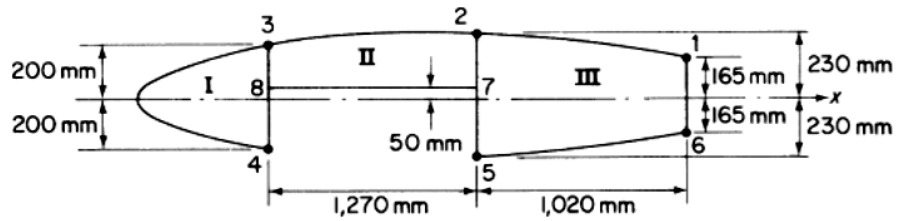

Figure 7
- (b) The wing section shown in Figure 7 has been idealized such that the booms carry all the direct stresses. If the wing section is subjected to a bending moment of 300kNm applied in a vertical plane, calculate the direct stresses in the booms: Boom areas:  $B_1 = B_6 = 2,580 \text{ mm}^2$ ;  $B_2 = B_5 = 3,880 \text{ mm}^2$ ;  $B_3 = B_4 = 3,230 \text{ mm}^2$ . [7M]